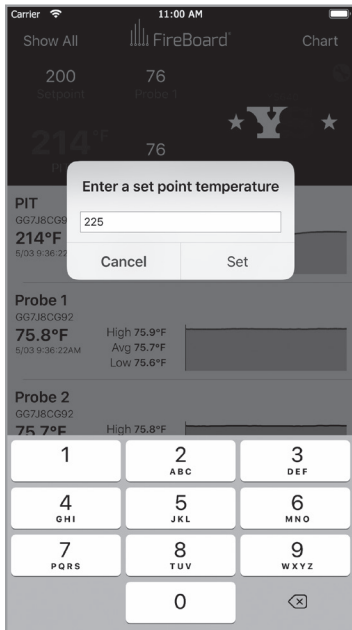

FIG 33
- You can change the pit’s setpoint by tapping on the setpoint in the gray banner (**FIG 33**). Simply enter your new desired setpoint and tap the “Set” button. Please note that changes to the setpoint take a few seconds to take effect. Please be patient for them to be reflected in the cooker and in the app’s dashboard.